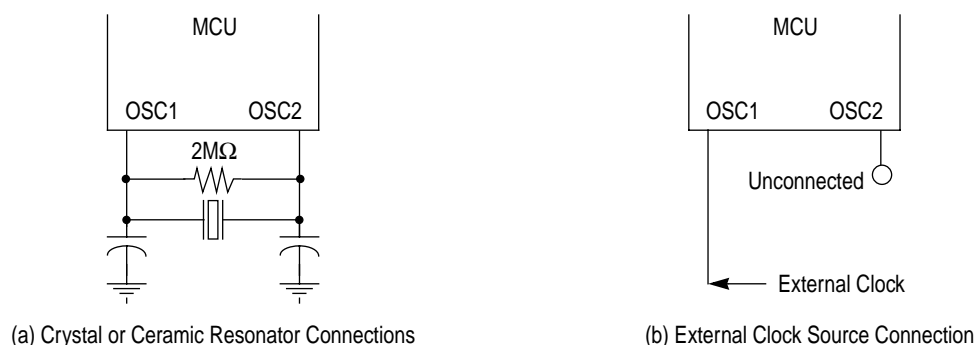

Figure 1-3. Oscillator Connections
1. A crystal as shown in **Figure 1-3(a)**
2. A ceramic resonator as shown in **Figure 1-3(a)**
3. An external clock signal as shown in **Figure 1-3(b)**
The circuit in **Figure 1-3(a)** shows a typical oscillator circuit for an AT-cut, parallel resonant crystal. The crystal manufacturer's recommendations should be followed, as the crystal parameters determine the external component values required to provide maximum stability and reliable start-up. The load capacitance values used in the oscillator circuit design should include all stray capacitances. The crystal and components should be mounted as close as possible to the pins for start-up stabilization and to minimize output distortion. An internal start-up resistor of approximately $2M\Omega$ is provided between OSC1 and OSC2 for the crystal type oscillator as a mask option.
In cost-sensitive applications, a ceramic resonator can be used in place of the crystal. The circuit in **Figure 1-3(a)** can be used for a ceramic resonator. The resonator manufacturer's recommendations should be followed, as the resonator parameters determine the external component values required for maximum stability and reliable starting. The load capacitance values used in the oscillator circuit design should include all stray capacitances. The ceramic resonator and components should be mounted as close as possible to the pins for start-up stabilization and to minimize output distortion. An internal start-up resistor of approximately $2M\Omega$ is provided between OSC1 and OSC2 for the ceramic resonator type oscillator as a mask option.
An external clock from another CMOS-compatible device can be connected to the OSC1 input, with the OSC2 input not connected, as shown in **Figure 1-3(b)**. This configuration is possible ONLY when the crystal/ceramic resonator mask option is selected.